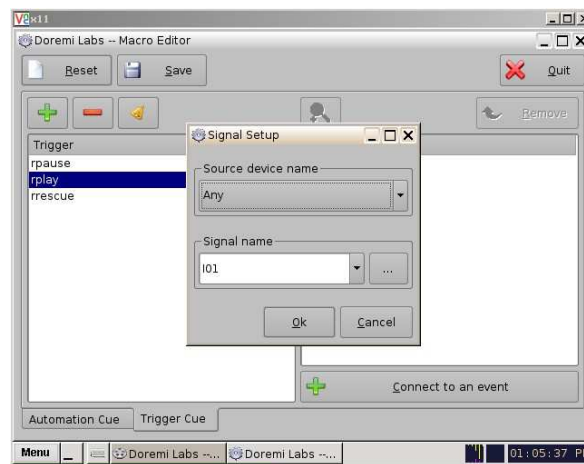

Figure 8.3.4E
- Pressing the Ok button of the "Signal library" window you will come back to the "Signal Setup" window, but with the "Signal name" filled with your previous chosen input selection. You can see the example for the Input 1 in the **figure 8.3.4E**. Click on the Ok button to finish the creation of the trigger cue.